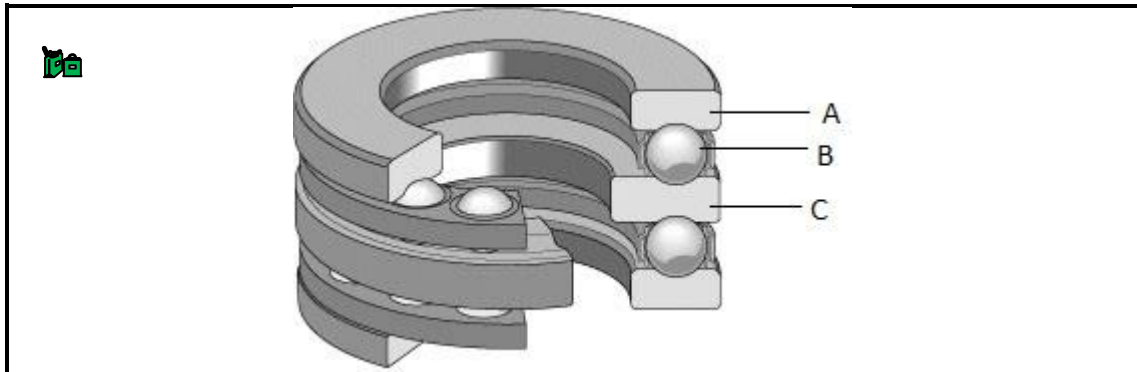

FIGURE 1
3.1 FIGURE 1 shows an antifriction bearing.